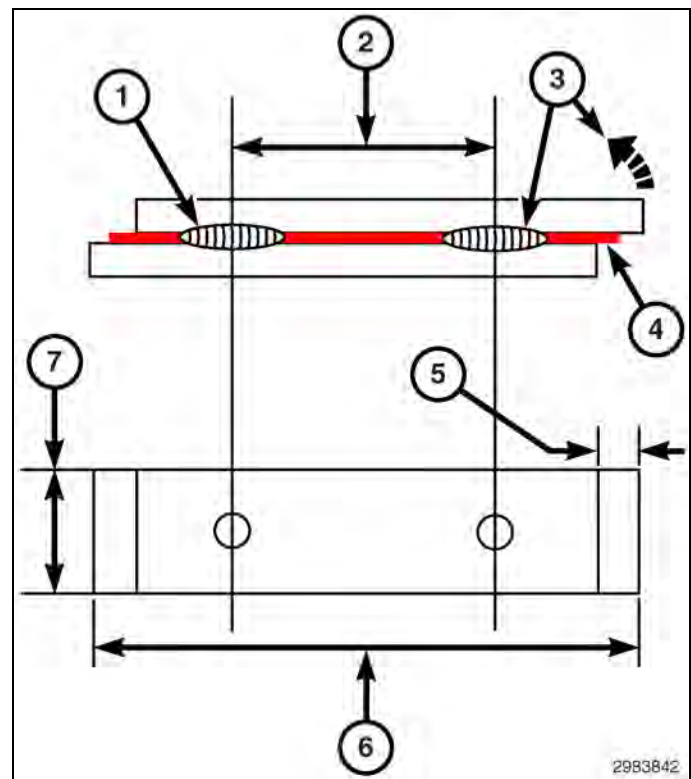

Fig. 10 Weld Coupon
- Learning how to create weld coupons, refer to (Fig. 10) and then performing a destructive test using these coupons, is the key to successfully using STRSW. Chrysler Group LLC requires a physical test using test coupons and the methods outlined in this document to test welds prior to making repairs.
3. Using the procedure outlined, (Fig. 10), prepare the test coupons.
8. As shown in (Fig. 10), place first weld at a position at least 12.5mm. (0.5 in.) away from end weld coupons. Then make the second weld. The weld spacing should be the same distance as the original welds or the closest existing weld, whichever is the least on the vehicle being repaired.